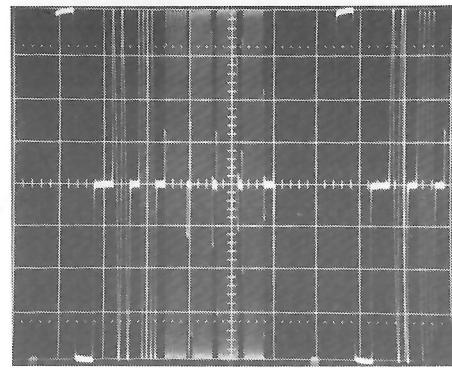

Fig. 17-3 L1, L2, C33 correctly adjusted
- Then readjust C33 for flat response according to specifications; refer to fig 17-3.